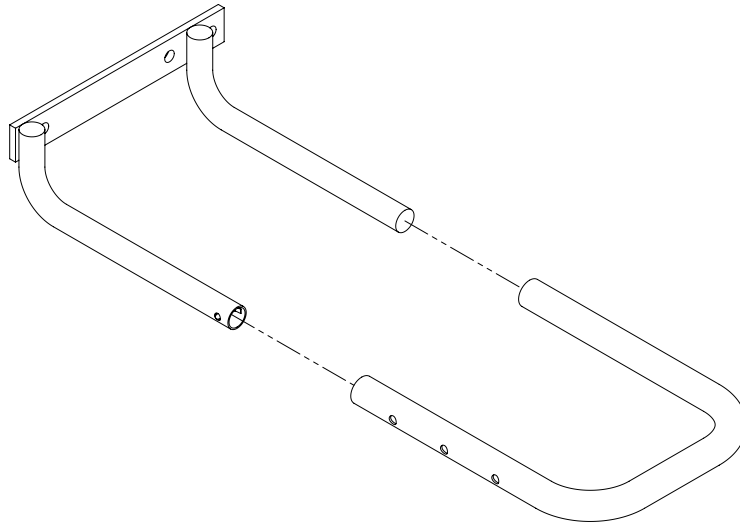

Figure 3 - Removing wheel bracket positioning tube.
3. Press in the positioning pin and remove the slidable positioning tube from the wheel bracket (see figure 3).